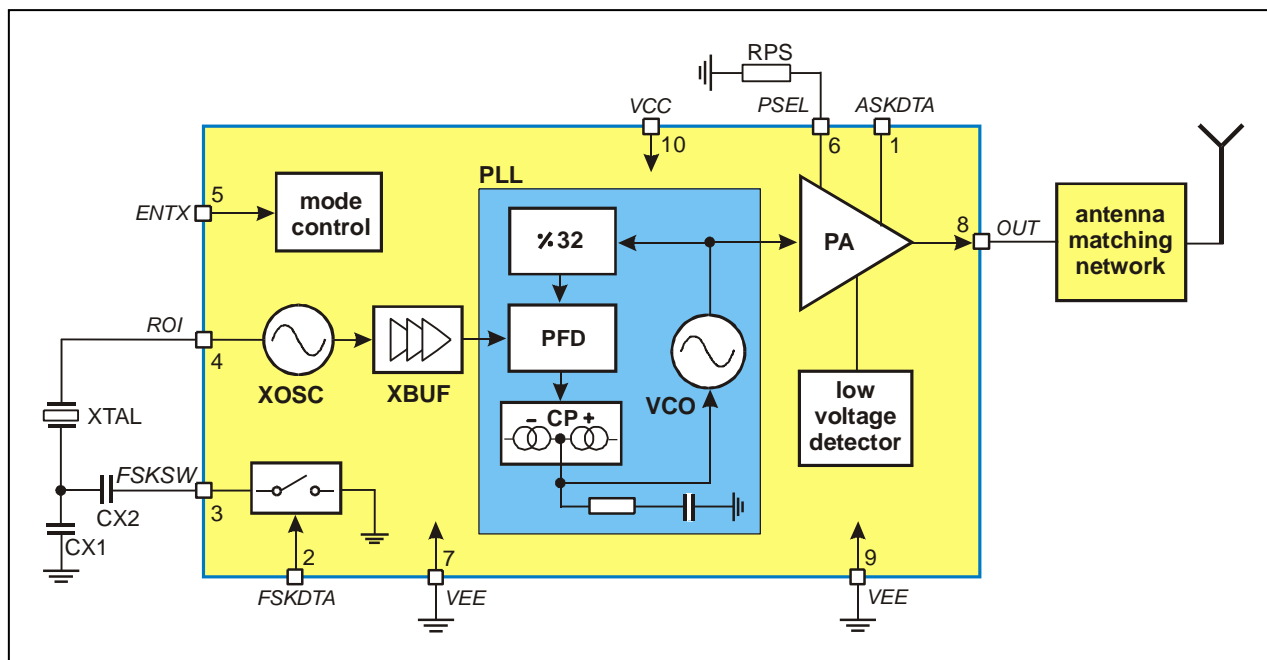

Fig. 1: Block diagram with external components
As depicted in Fig.1, the TH72005 transmitter consists of a fully integrated voltage-controlled oscillator (VCO), a divide-by-32 divider (div32), a phase-frequency detector (PFD) and a charge pump (CP). An internal loop filter determines the dynamic behavior of the PLL and suppresses reference spurious signals. A Colpitts crystal oscillator (XOSC) is used as the reference oscillator of a phase-locked loop (PLL) synthesizer. The VCO's output signal feeds the power amplifier (PA). The RF signal power P_{out} can be adjusted in four steps from $P_{out} = -12$ dBm to +11 dBm, either by changing the value of resistor RPS or by varying the voltage V_{PS} at pin PSEL. The open-collector output (OUT) can be used either to directly drive a loop antenna or to be matched to a 50Ohm load. Bandgap biasing ensures stable operation of the IC at a power supply range of 1.95 V to 5.5 V.